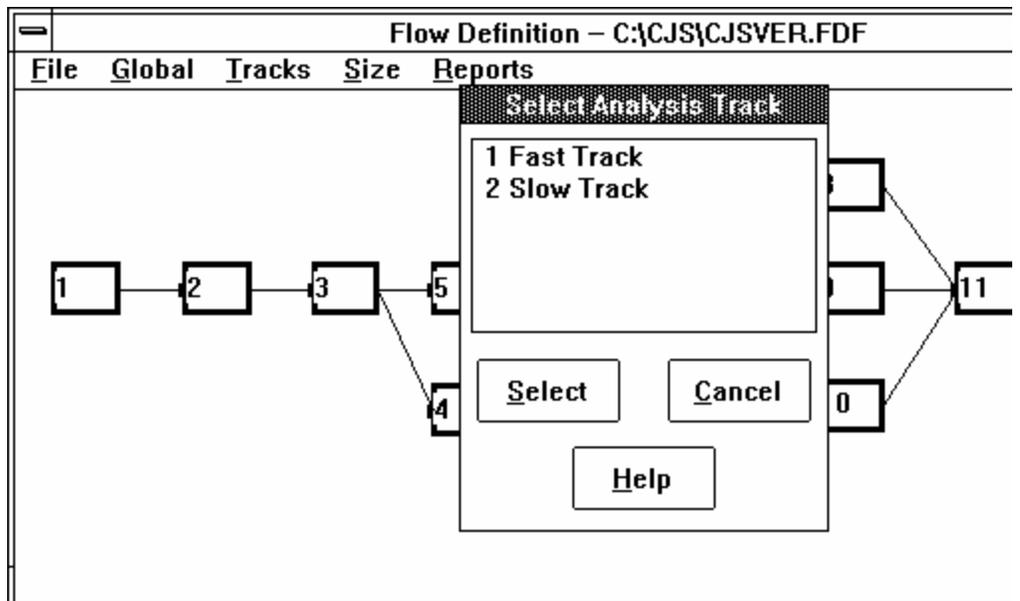

Figure 3-23. The Select Analysis Track dialog box.
The Tracks option opens the Select Analysis Track dialog box (Figure 3-23) and enables you to define and select tracks for analysis, and to produce reports about them. It also enables you to save and delete tracks that you have defined.
1. Click Tracks option on the Flow Definition screen. The Select Analysis Track dialog box will automatically appear as shown in Figure 3-23.